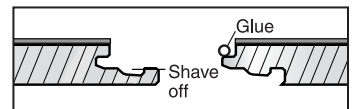

Figure 13
2. Using a small plane or knife plane, shave 75% of the ledge off the groove. (Figure 13)